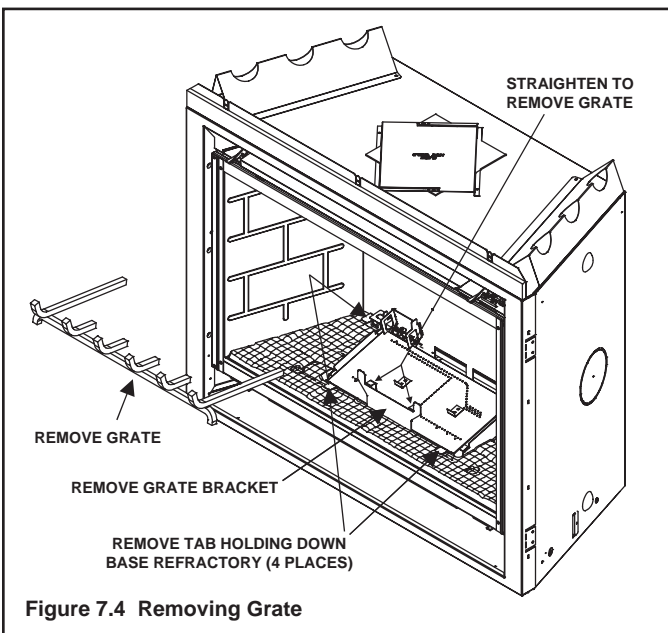

Figure 7.4 Removing Grate
1. Straighten the tabs on the grate bracket (see Figure 7.4) and remove grate from unit.
2. Remove grate bracket (see Figure 7.4) by bending it back and forth until it breaks. Discard grate bracket.
3. Remove 4 tabs holding base refractory (see Figure 7.4) by bending tabs back and forth until they break.